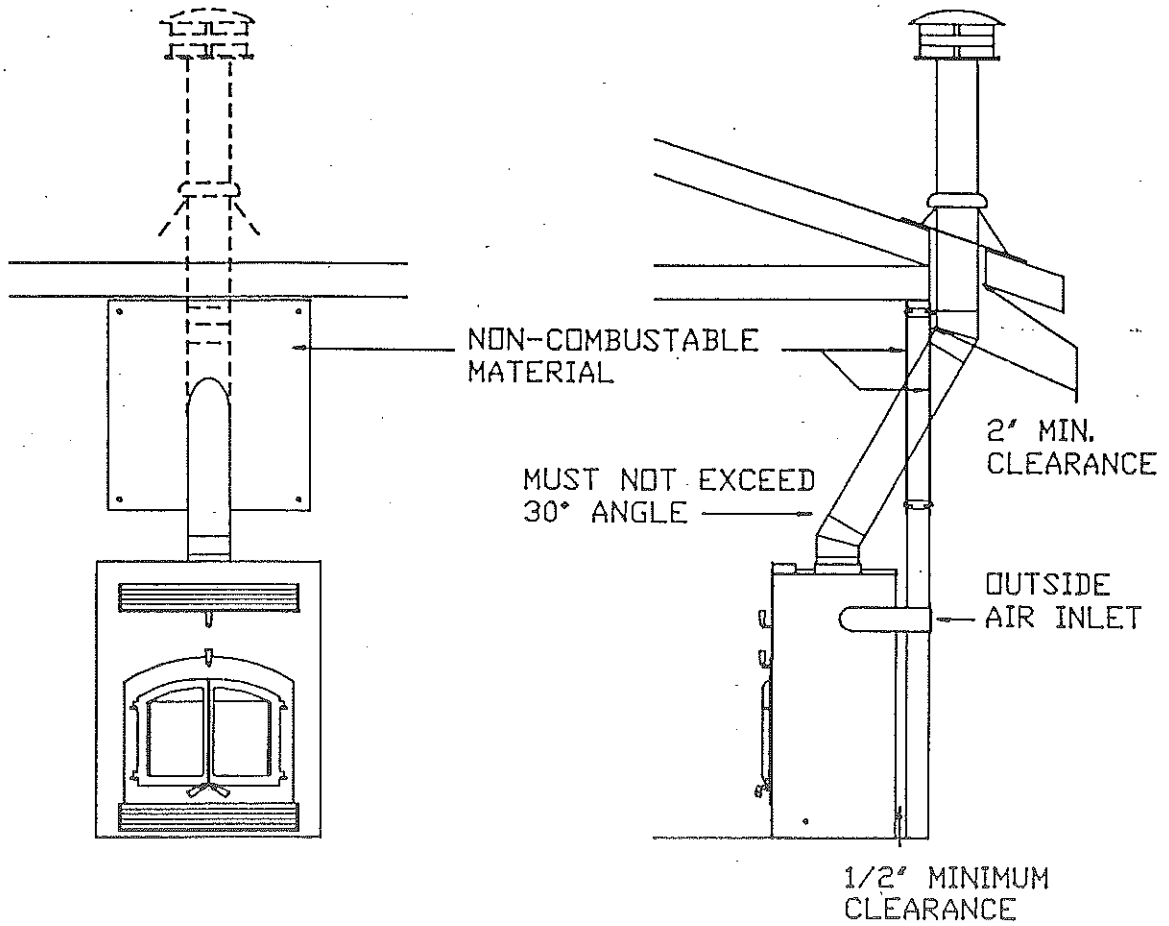

Fig. 5
3. Install the chimney in accordance to the chimney manufacturer's installation instructions. The chimney needs to be a minimum of 10' overall, with a minimum of 3' above the roof line and 2' above the nearest peak. See Fig. 5.